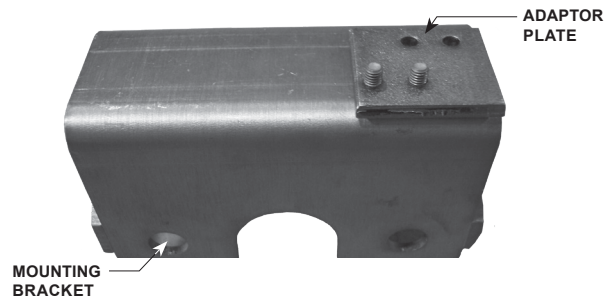

Figure 3. 1-1/4 in. / 32 mm Bracket Adaptor
2. Install the hex bolts (key 15) through hole in the bracket and attach to the N550/N551 Series body. For installing the Type P539A to the NPS 1-1/4 / DN 35 N550/N551 Series, you must utilize the adaptor plate which was used to attach the latch block. Remove the adaptor plate and attach to the actuator mounting bracket as shown in Figure 3. Then mount the assembly to the N550/N551 Series body.